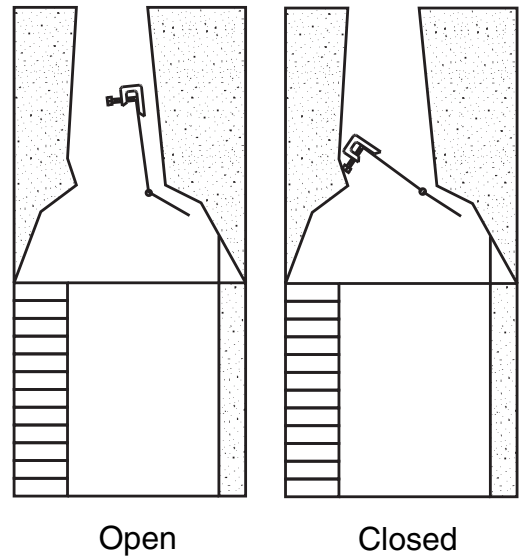

Fig. 5-1
A damper clamp (Item #8) is provided as a means to prevent full and/or accidental closure of the fireplace damper when installed as illustrated (Fig. 5-1). **When the gas log set is operating, the damper must be fully open.** To install the damper clamp:
2. Place the damper clamp over the damper blade (Fig. 5-1).